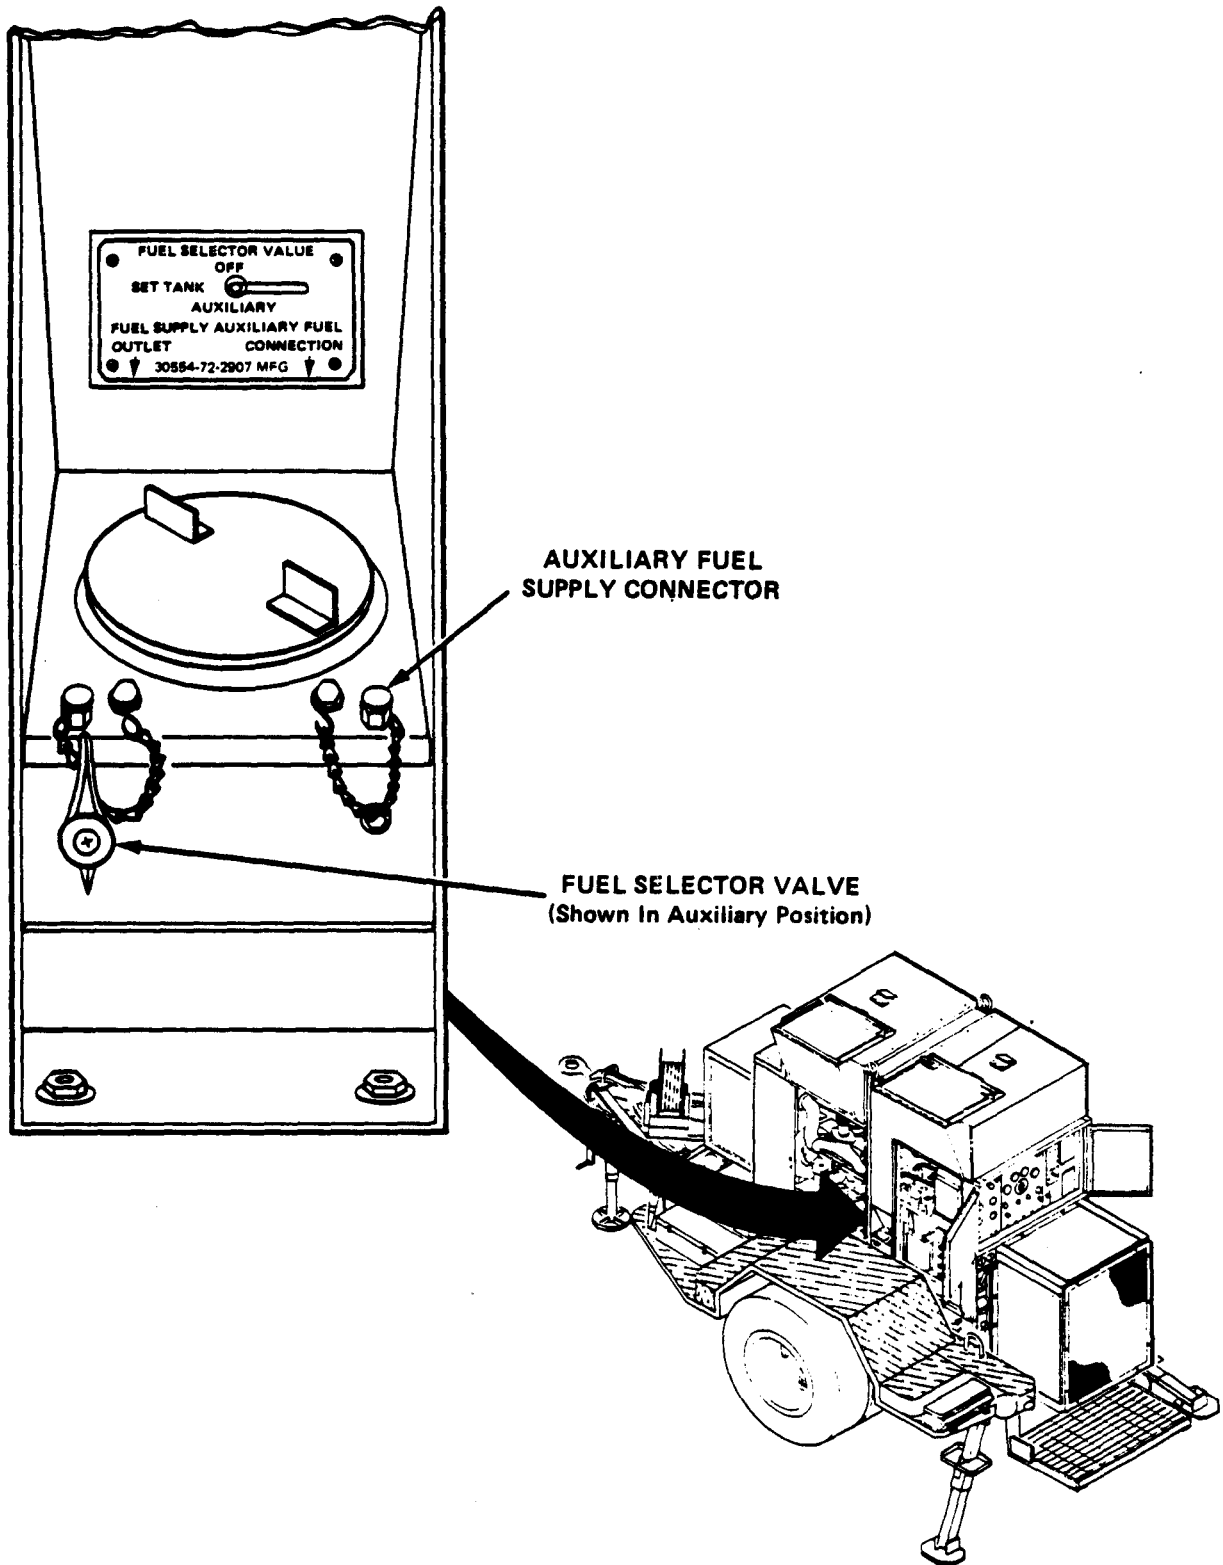

Figure 1-4. External Line Connections
(1) Connect one end of the auxiliary fuel line to the PU 794/G auxiliary fuel supply connection located below the integral tank filler cap (Figure 1-4).
(2) Connect other end of the auxiliary fuel line to the auxiliary fuel source.
(3) Position the fuel selector valve in the AUXILIARY position (figure 1-4).